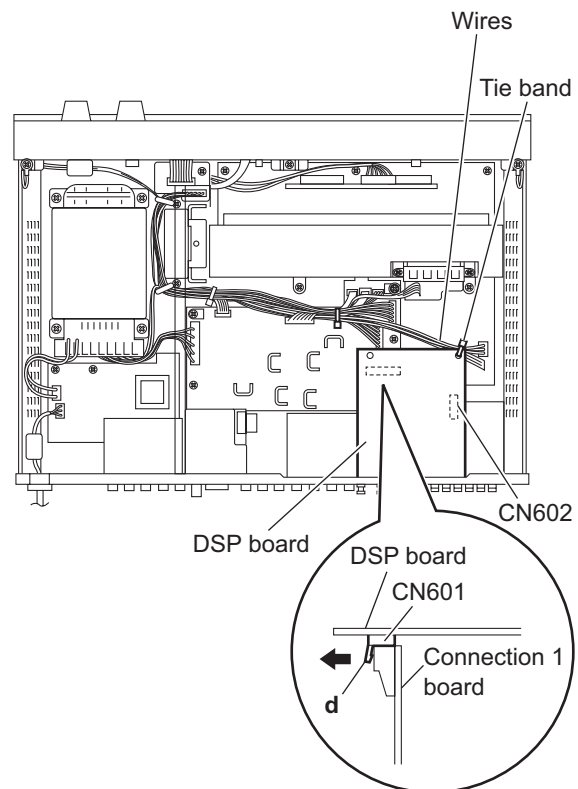

Fig.9
- From the top side of the main body, remove the tie bands bundling the wires. (See Fig.9.)
After reassembling, bundle the wires with the new tie bands as before. (See Fig.9.)
- From the forward side of the DSP board, release the lock **d** of the connector CN601 in the direction of the arrow and disconnect the DSP board from the connection 1 board. (See Fig.9.)
When releasing the lock **d** of the connector CN601, take care not to break the lock. (See Fig.9.)
- From the forward side of the DSP board, disconnect the card wire from the connector CN602. (See Fig.9.)
After reassembling, bundle the wires with the new tie band and wire clamps as before. (See Fig.9.)